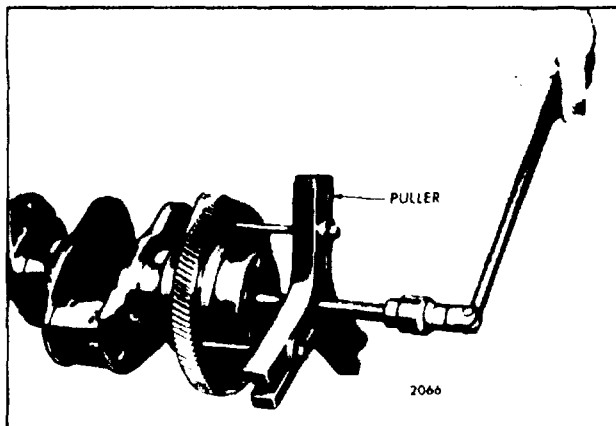

Fig. 1. Removing Crankshaft Timing Gear
3. Attach bar type puller J 4871 to the crankshaft gear with three long bolts or hooks, flat washers and nuts through the holes in the gear as shown in Fig. 1.